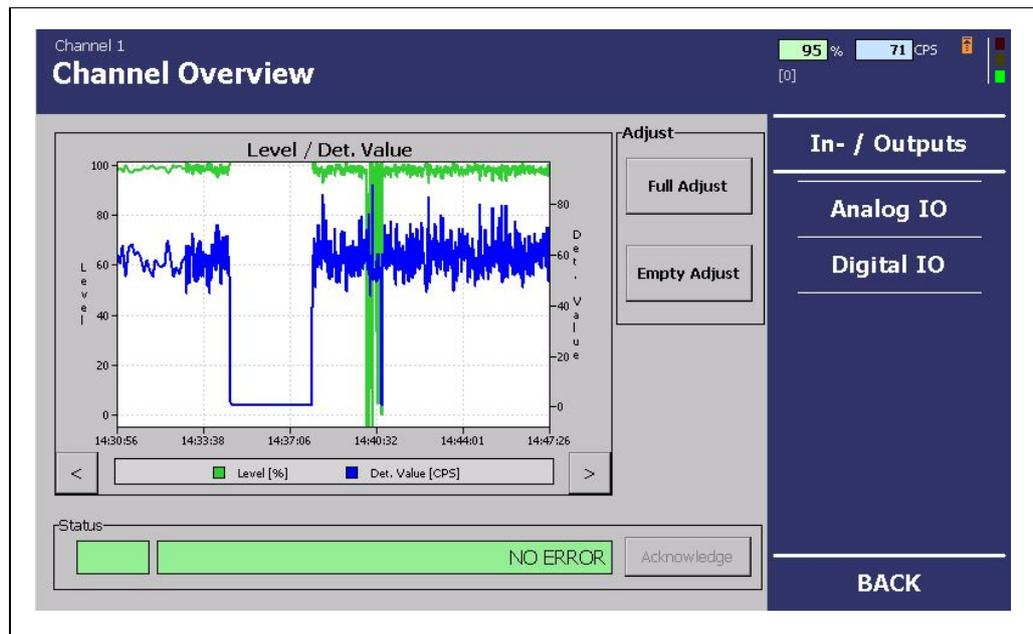

Fig. 66 "Channel Overview" Menu, Settings - In/Outputs
In the "Test" submenu, you can enter your own current value for the sake of the test (Fig. 66, Item 4). As long as this test current is in effect, the background of the input field will be shown in red. In the "Actual" display field, the actual current is displayed. This value cannot be changed.
1. In the "Channel Overview" menu click on In/Outputs | Analogue IO | Test (Fig. 66, Item 2).
2. Click in the input field (Fig. 66, Item 4).
- ▶ The test mode is started (Fig. 66, Item 1).